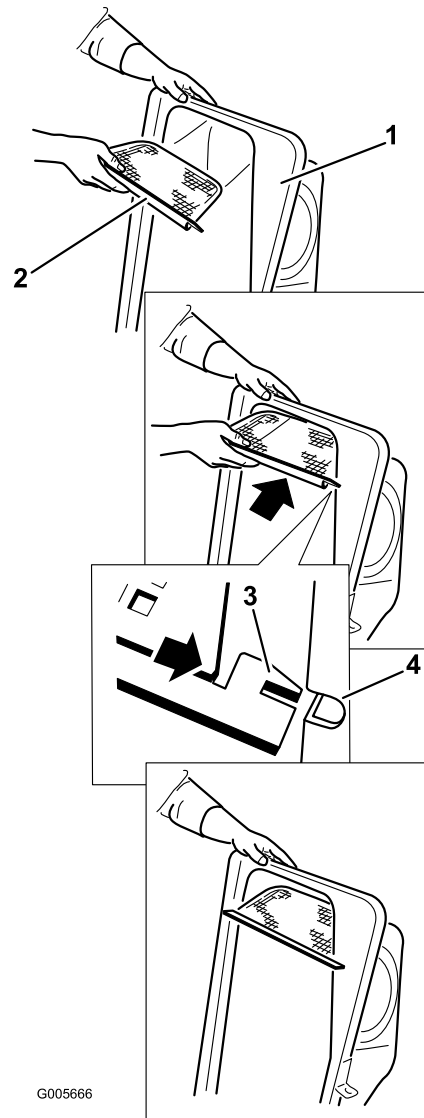

Figure 10
2. Install the screen as shown in Figure 10 and that it slopes down toward the collection bags.